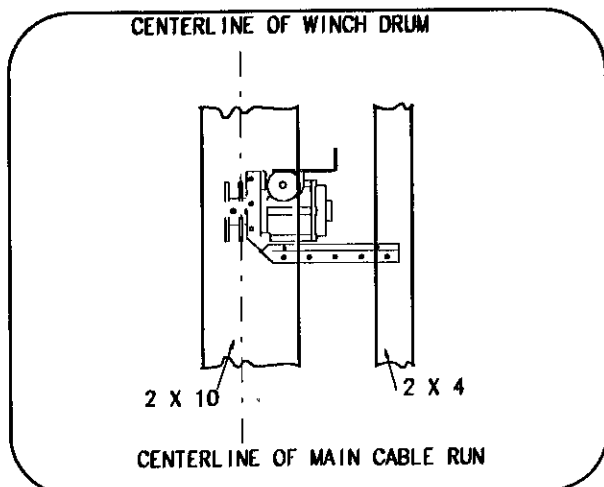

Figure 12
1. Winch system is designed to operate using a block and tackle system. Two (2) 3 1/2" master pulleys, 3/16" cable and cable clamps are required to complete block and tackle cable loop. See Figure 12.